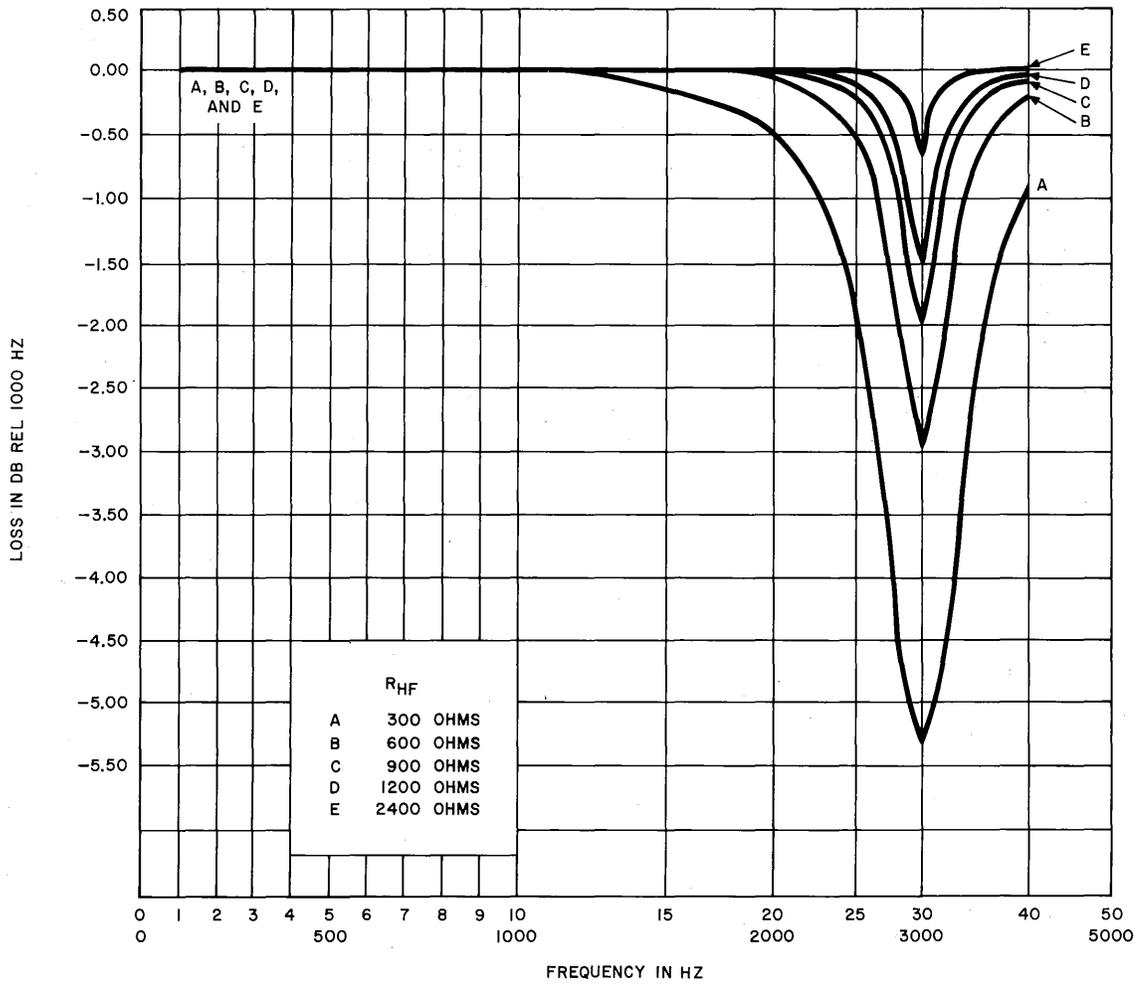

Fig. 6—4182C Network, High-Frequency Section, Loss-Frequency Characteristics Between 600-Ohm Impedances—At Various Settings of R_{Hf}
4.05 The shunt arm high-frequency components provide amplitude equalization for H88 loaded, high-capacitance cable where the nominal cutoff is 3500 Hz. Capacitor C1 and inductor L1 form a parallel resonant circuit tuned to 3000 Hz which is in series with the adjustable resistor R_{HF} . Varying resistor R_{HF} adjusts the amount of high-frequency equalization for various lengths and gauges of facilities. Figure 6 illustrates the typical corrective losses which may be obtained by various settings of R_{HF} .